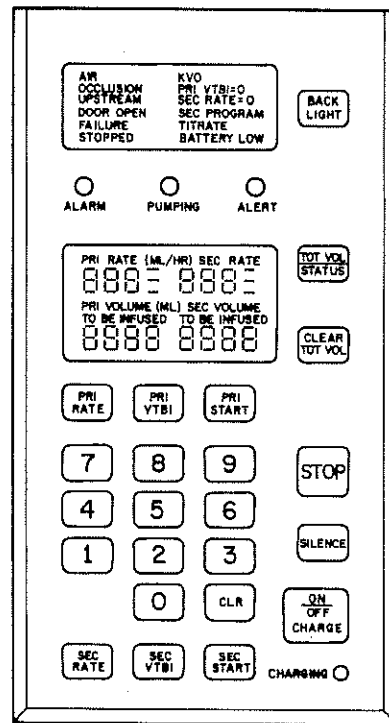

Figure 5. Self-Test Displays
11. Press ON-OFF/CHARGE key. All displays illuminate momentarily as shown in figure 5. The audible alarm sounds and if pump is plugged in, the CHARGING LED lights.